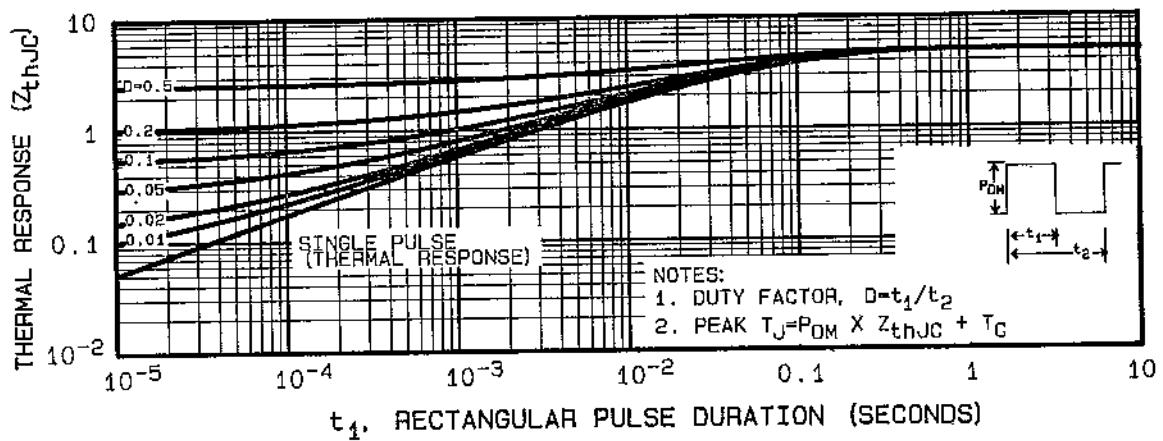

Fig. 5 — Maximum Effective Transient Thermal Impedance, Junction-to-Case Vs. Pulse Duration
① Repetitive Rating; Pulse width limited by maximum junction temperature (see figure 5)
② @ $V_{DD} = 25\text{V}$, Starting $T_J = 25^\circ\text{C}$, $L = 100\mu\text{H}$, $R_G = 25\Omega$, single pulse.
③ $I_{SD} \leq 8.2\text{A}$, $dI/dt \leq 130\text{A}/\mu\text{s}$, $V_{DD} \leq 40\text{V}$, $T_J \leq 150^\circ\text{C}$